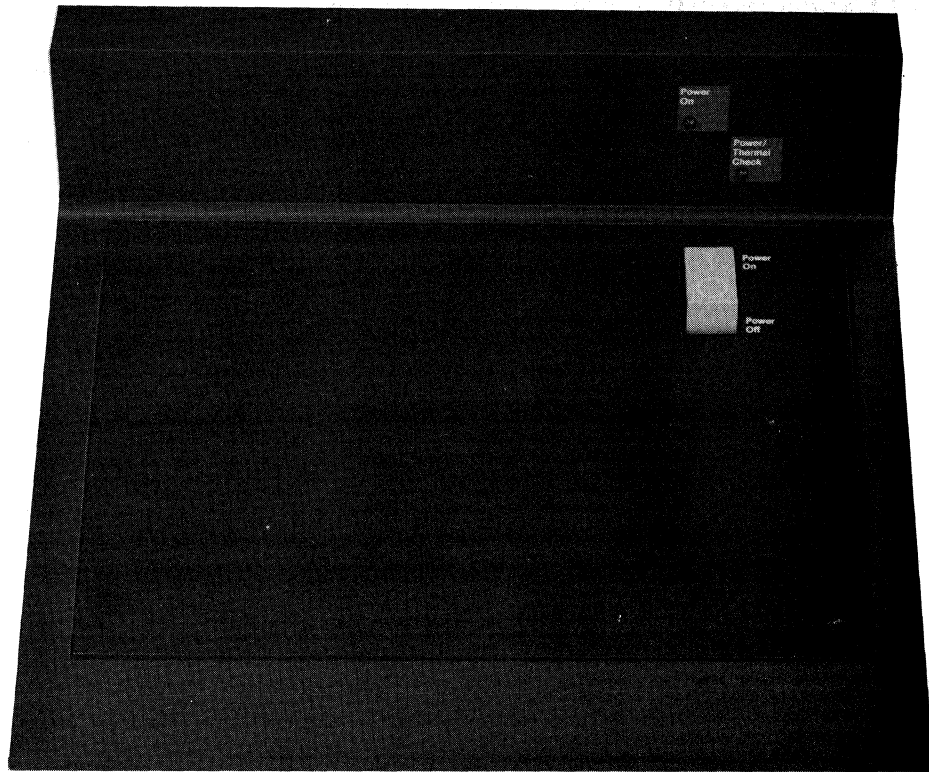

Figure 8-6. 8101 and 8102 Storage and Input/Output Units Operator Panel
- 8101 and 8102 operator panel (Figure 8-6)